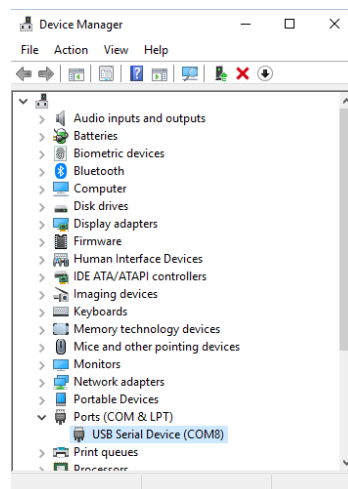

Figure 2. The ZMID-COMBOARD Appears as a Serial Device
5. After successful driver installation, the device appears in the Device Manager under "Ports" as a "USB Serial Device." See Figure 2.